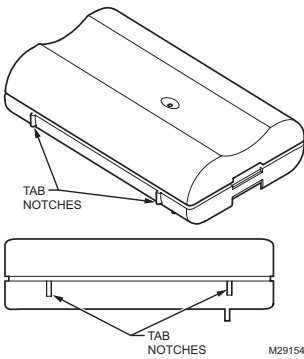
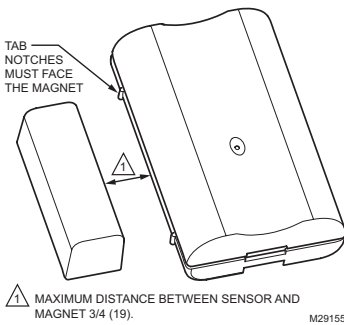

Fig. 7. Door sensor tab notches.
Fig. 8. Maximum distance between door sensor and magnet.
4. Make sure the notched side of the door sensor is pointing in the direction that you will mount the magnet. See Fig. 7 and Fig. 8.
7. Mount the magnet a maximum of 3/4 in. (19 mm) from the door sensor, as illustrated in Fig. 8.
- Make sure the sliding door/window sensor and magnet are close to each other, within 3/4 in. (19 mm), and that the tab notches on the sensor face the magnet. See Fig. 8 on page 5.